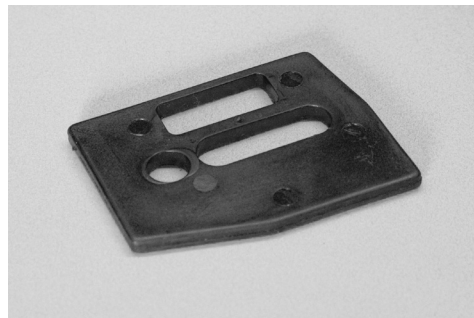

Figure 1
4. Remove the plastic shipping spacer from the bar studs. The purpose of this spacer is to keep the clutch cover in the correct position when the guide bar is not installed on the power unit. **SEE FIGURE 1.**